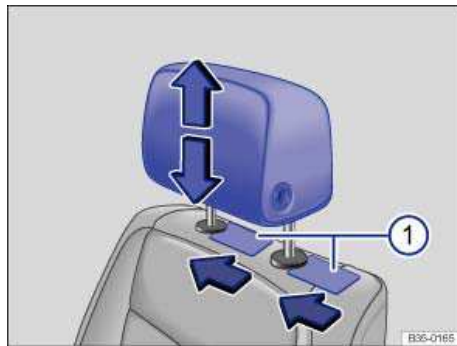

Fig. 50 Removing the front head restraints.
- ☐ On each side of the seat, slide a flat object, such as a plastic credit card, between the seat backrest and the cap of each head restraint guide rod ⇒ fig. 50 \(1\) to unlock the head restraint. Press lightly at the same time to release the rods.